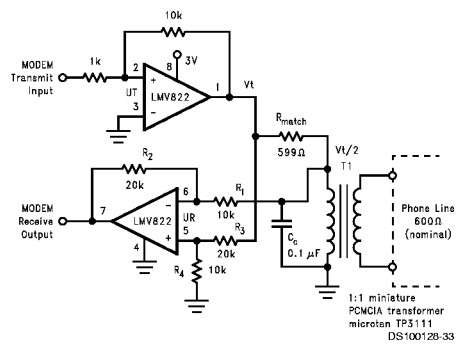

FIGURE 7. Telephone-Line Transceiver for a PCMCIA Modem Card
The telephone-line transceiver of Figure 7 provides a full-duplex connection through a PCMCIA, miniature transformer. The differential configuration of receiver portion (UR), cancels reception from the transmitter portion (UT). Note that the input signals for the differential configuration of UR, are the transmit voltage (V_T) and $V_T/2$. This is because R_{match} is chosen to match the coupled telephone-line impedance; therefore dividing V_T by two (assuming $R_1 \gg R_{match}$). The differential configuration of UR has its resistors chosen to cancel the V_T and $V_T/2$ inputs according to the following equation: